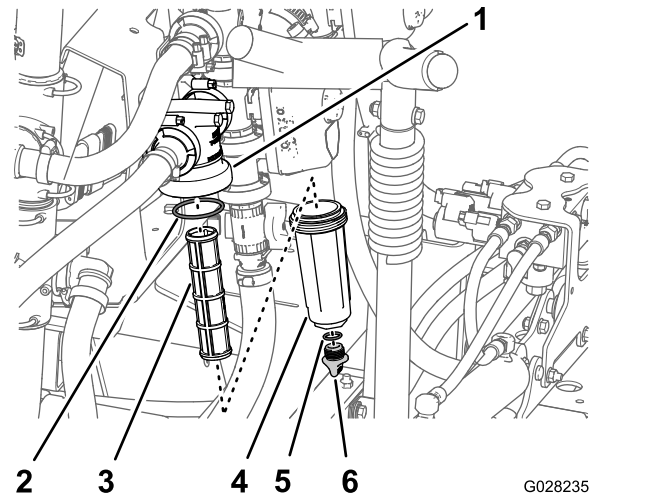

Figure 104
2. Align a drain pan under the pressure filter (Figure 104).
3. Rotate the drain plug counterclockwise and remove it from the bowl of the pressure filter (Figure 104).
4. Rotate the bowl counterclockwise and remove it from its filter head (Figure 104).
5. Remove the old pressure-filter element (Figure 104).
6. Check the O-ring for the drain plug (located inside the bowl) and the O-ring for the bowl (located inside the filter head) for damage and wear (Figure 104).
7. Install the new pressure-filter element into the filter head (Figure 104).
8. Install the bowl onto the filter head and tighten by hand (Figure 104).
9. Install the plug into the bowl and tighten by hand (Figure 104).